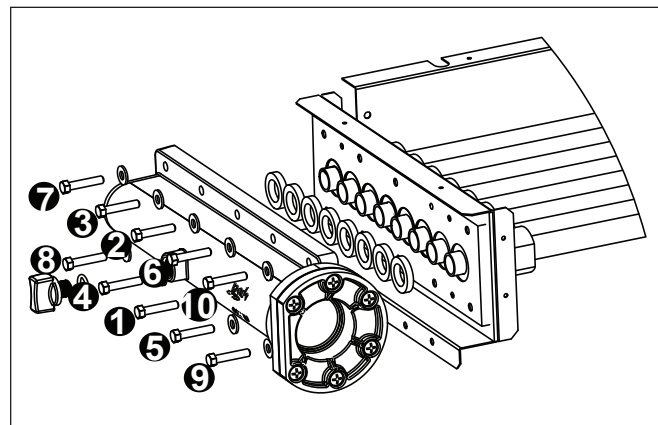

Figure 11. Header Bolt Tightening Sequence
9. Remove the ten (10) bolts and washers from the inlet/outlet header and remove the header from the tube assembly.
10. Remove the ten (10) bolts and washers from the return header and remove the header from the tube assembly.
13. Thread on the ten (10) bolts and washers and hand tighten.
15. Thread on the ten (10) bolts and washers and hand tighten.
16. Use a torque wrench to tighten the bolts on each header to four (4) foot-pounds. The bolts must be tightened in the sequence indicated in Figure 11.